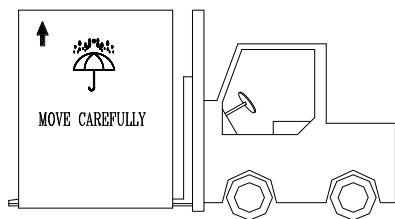
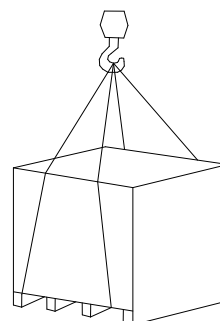

Fig. 4-1
Fig. 4-2
- (1) To transport the machine, it is necessary to support the machine with the crated case or pallet to avoid moisture. In case of damage by moistening, please contact our agents or forwarding agents.
- (2) After unpacking, check and see if all the accessories and tools are intact, otherwise, please contact our agents.
- (3) To hoist the unpacked case by reinforced cable, the motion shall be observed strictly the instruction appeared on the size of the wooden case.
- (4) Prior to unpacking, transport may be made by using forklift (Fig.4-1), and a reinforced cable (Fig.4-2).
- (5) After unpacking, do not move the sliding faces as long as the rustproof oil on them are not cleaned off and followed with the lubrication.